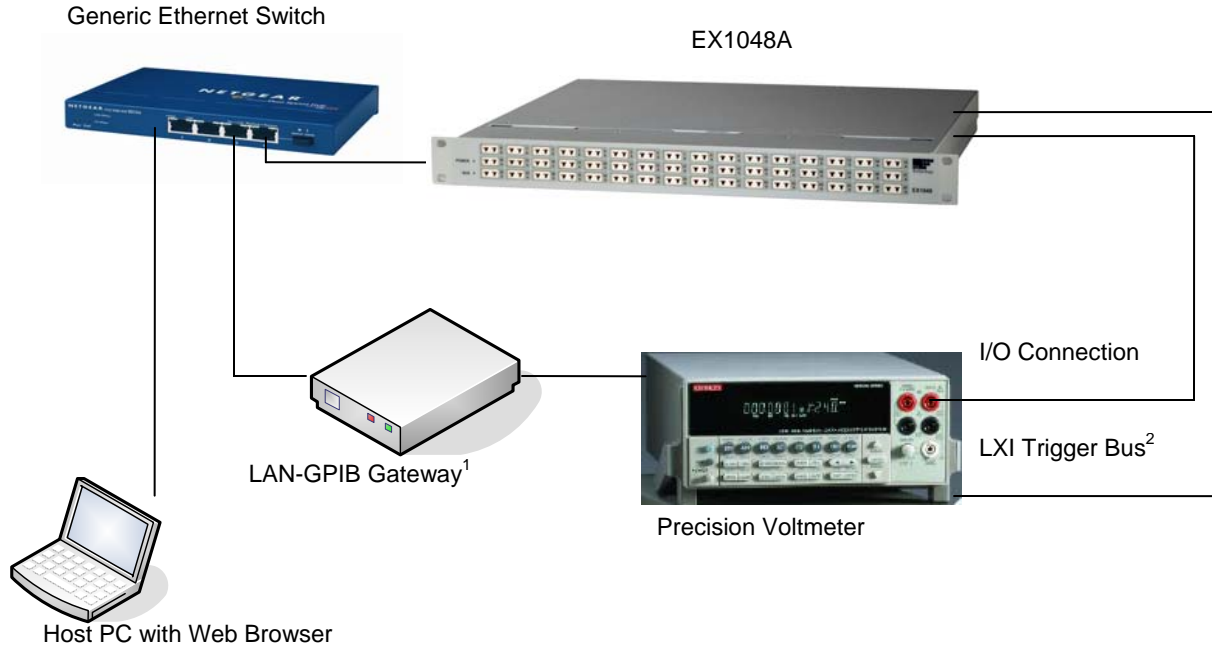

Figure 2 – LXI-Enhanced Calibration Setup
1. Connect the host computer, traceable calibration standard, and device to be calibrated through a LAN hub or switch (Figure 2).
2. Connect the voltmeter inputs to the EX1048A precision source output connectors (Figure 2).